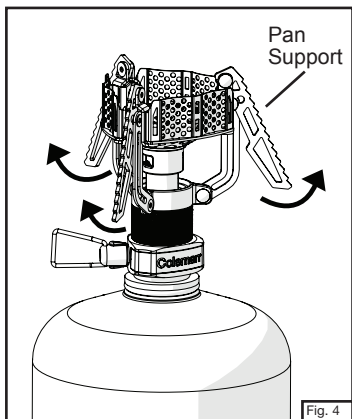
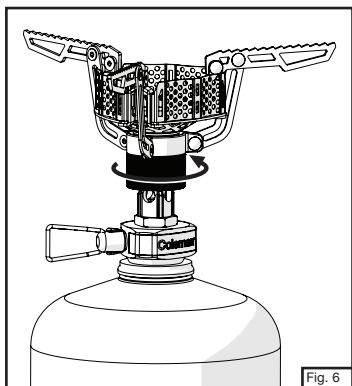

Fig. 4
Fig. 6
- Gently slide the lock nut up towards the burner, deploying the pan supports. (Fig. 4 & 5) Rotate the lock nut counter clockwise to lock position once pan supports are fully deployed. (Fig. 6)